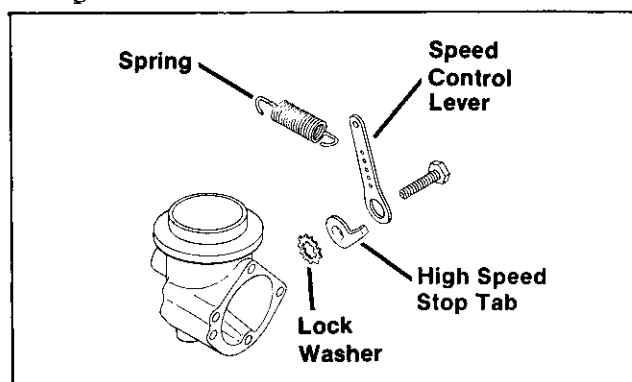

Figure 8-38. Assembling Governor Speed Control Lever
1. Attach high speed stop tab and governor speed control lever to carburetor elbow as shown in Figure 8-38.